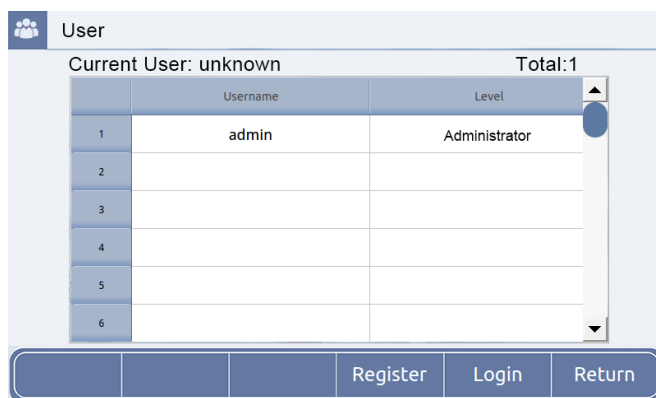

Fig 10. User Setting Screen
1. Click the <User> icon on the main screen to enter the user management screen (Figure 10).